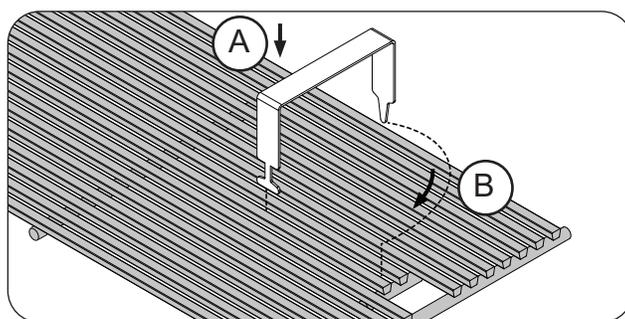
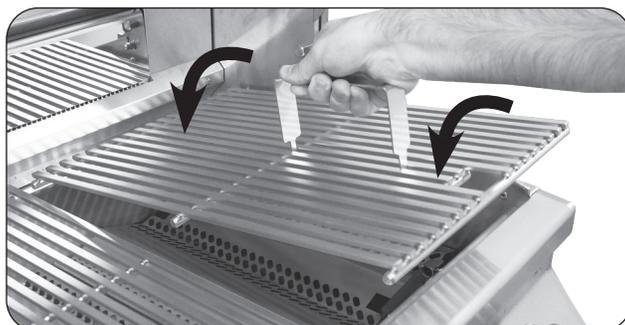

Fig. 25-3 Install cooking grids
Fig. 25-4 Install cooking grids
1. With the prongs facing downward, insert the notched-end of the lifter between two grid rods, then rotate, as shown in Fig. 25-3, A & B.
2. Insert the rear pointed-end of the lifter between the same two rods (Fig. 25-3, B) and **carefully** lift the cooking grid and place onto the front and rear grid rests of the grill (see Fig. 25-4). Repeat for all other cooking grids.